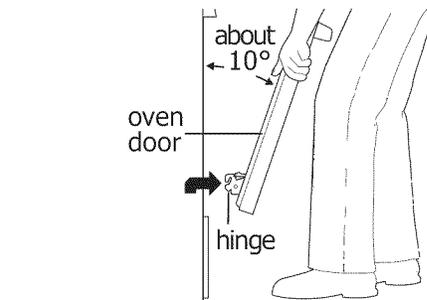

Figure 23: Holding door for removal
3. Firmly grasp both sides of oven door along the door sides. Do not use the oven door handle (See Figure 23).
1. Firmly grasp both sides of oven door along the door sides. Do not use the oven door handle (See Figure 23).